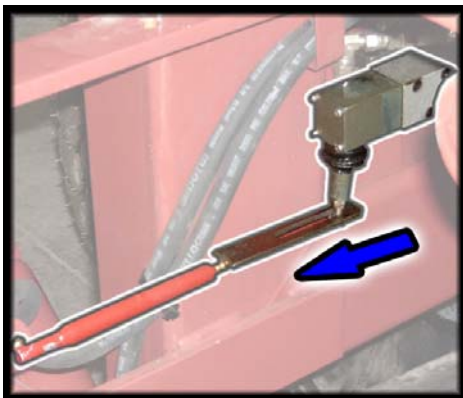

Figure 24 - Valve in Rewind Position
- manually rotate the control valve arm rearward (clockwise) until the valve handle travel limit is reached (see Figure 24)